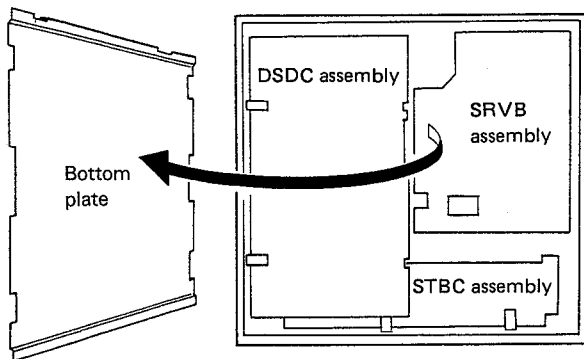

Fig. 10-1
1. Remove the bottom plate (by removing the ten screws). (Figure 10-1)